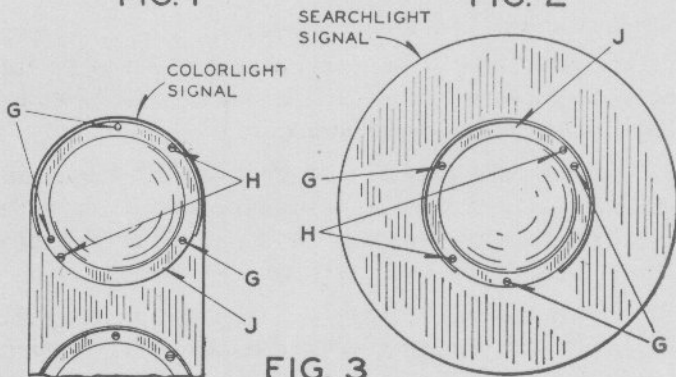

FIG. 3
(1) Remove the lens retaining ring "J", Fig. 3, and discard the ring and the two 14-24 screws "H".
- (1) Remove and discard the following parts where used:
- (a) The lens retaining ring "J", Fig. 3.